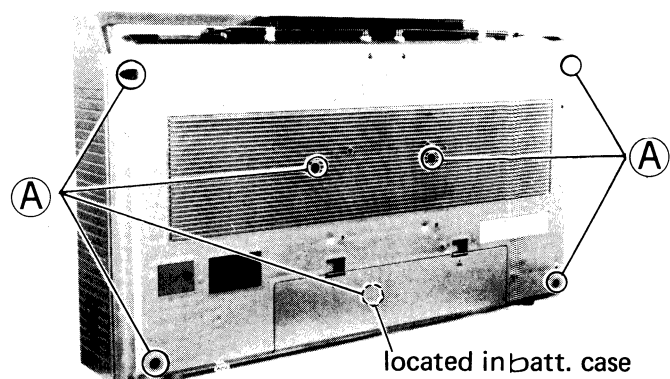
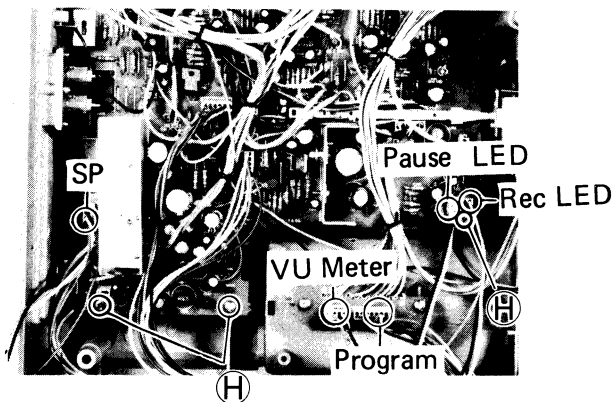
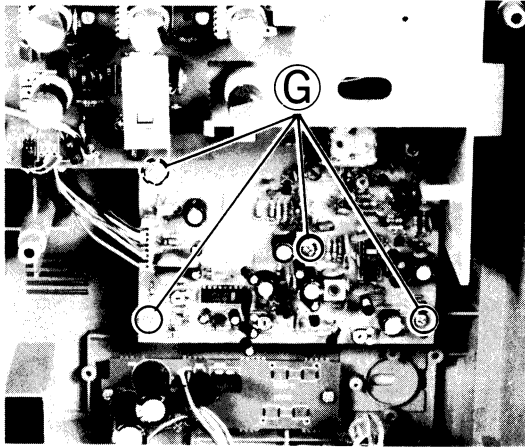
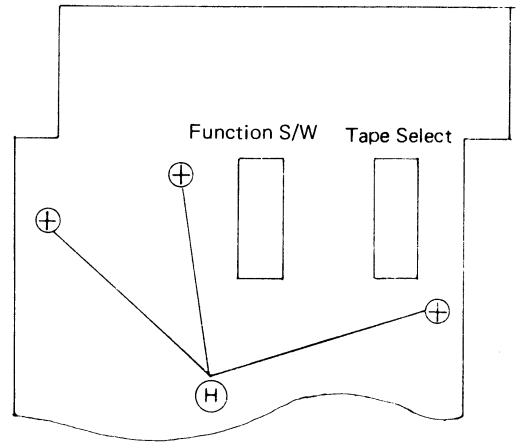

Fig.3
Fig.4
Fig. 8
Fig. 9
- (2) Remove seven screws (A) and take out the front case (see Fig.3) At this time, remove connectors for serviceable work.(see Fig.4)
- (2) Remove screw ③ (see Fig.8) and ⑥ (six) as shown in Fig 4 & Fig. 9.